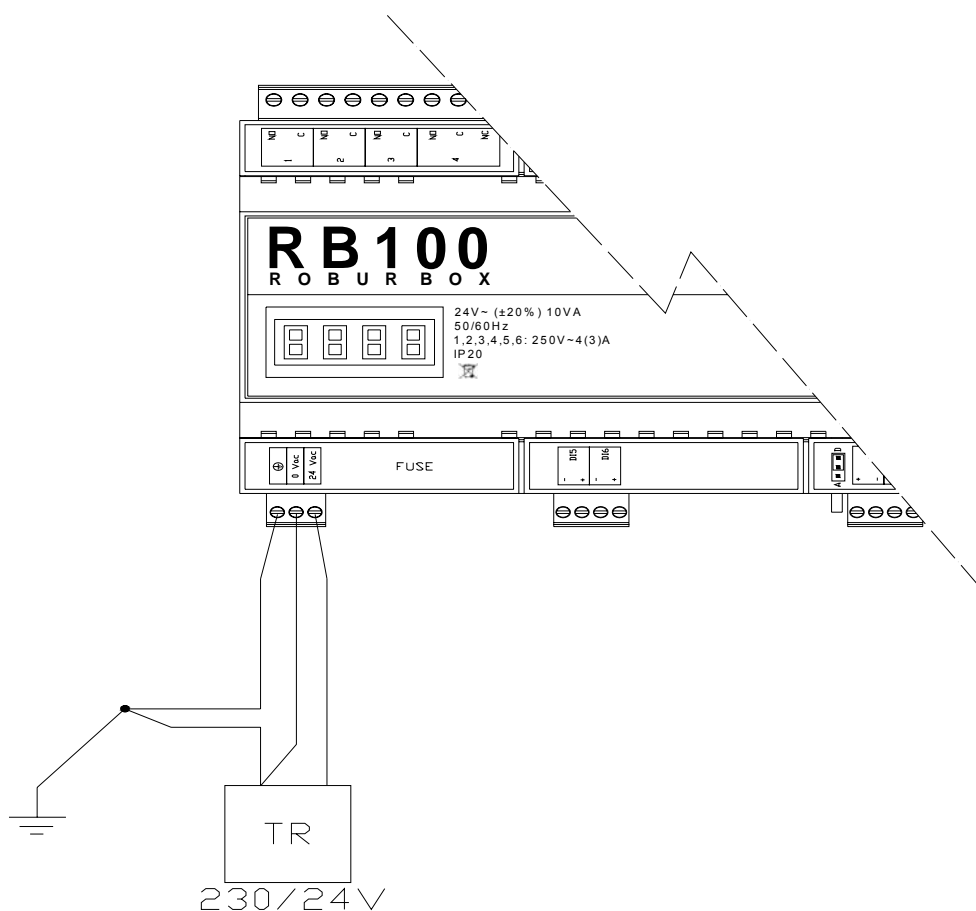

Figure 9 RB100. Example of connection to network: 24 Vac 10VA power supply
4. Connect by 0.75-mm² minimum section wires, as shown in Figure 9, respecting polarity.